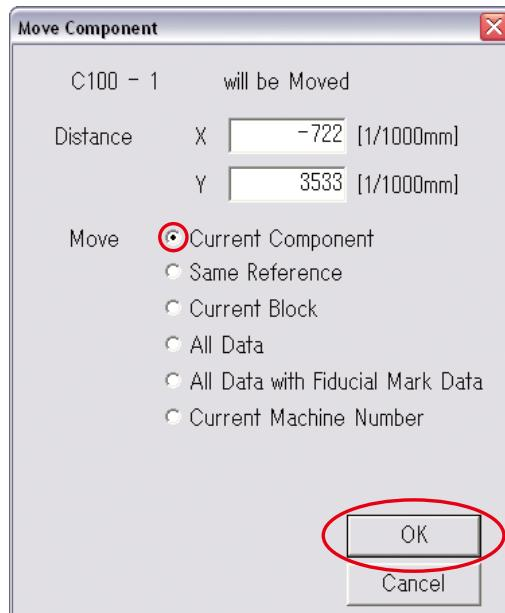

Figure 3-10 Move Component Data
Step9: The window shown in Figure 3-10 appears. Check the **Current Component** and press **OK**.